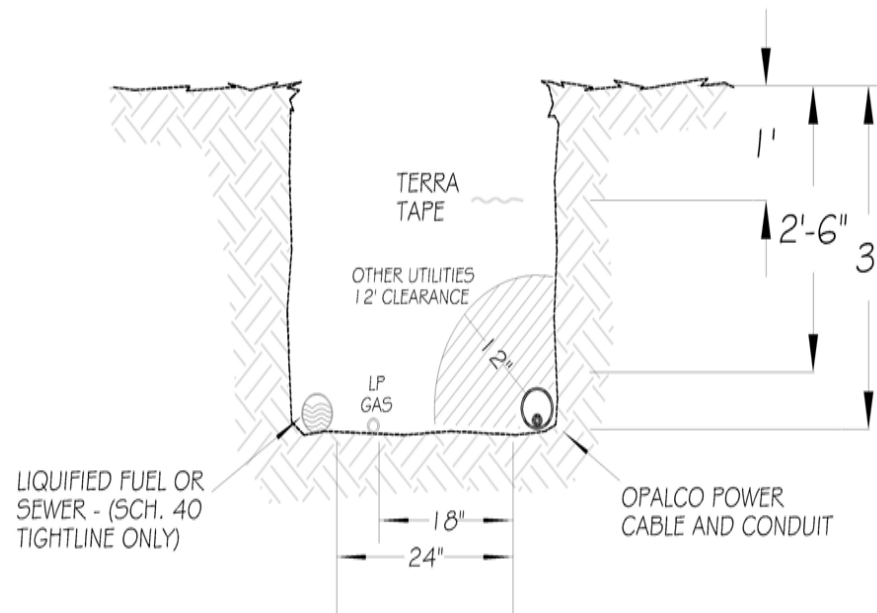

Figure 2 – Trenching/ Cabling
- If these clearance requirements cannot be met, a separate trench will be required for OPALCO underground primary lines. On all OPALCO underground primary power installations, the marking tape (terra-tape) shall be installed 18" above the power cable, or 12" below finished grade. (See Figure 2)